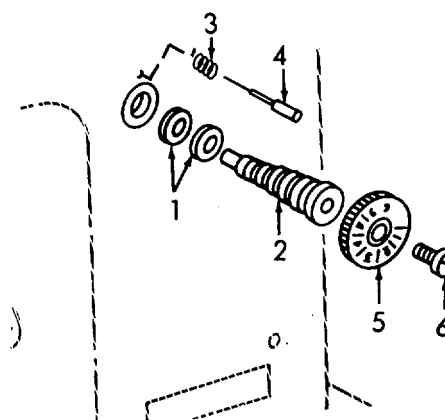

Figure 6-42. Feed Regulator Control, Installation.
- e. *Installation (Refer to Figure 6-42).*
- (1) Install two new preformed packings (1).
- (2) Install stitch length regulator (2). Turn the regulator (2) in as far as it will go with out being forced.
- (3) Install feed regulator spring (3) and pin (4).
- (4) Install regulator control dial (5) and screw (6). Set the numeral "1" directly on top of the pin (4).